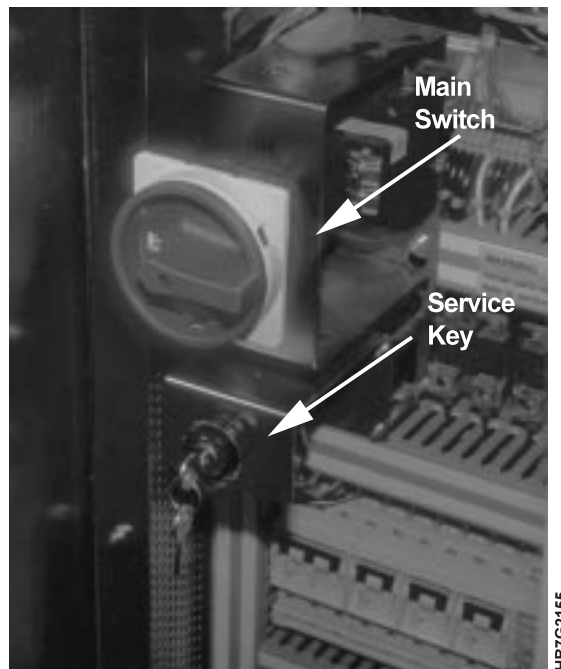

Figure 229. InfoColor 70 Main Switch and Service Key
- 3 Insert the service key into the lock located below the main switch, as shown in Figure 229.